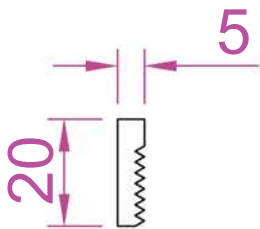

Fig. 18.10 Second example UCS
14. Construct one of the bolts as shown in Fig. 18.10, forming a solid of revolution from a pline. Then construct a head to the bolt and, with **Union**, add it to the screw.